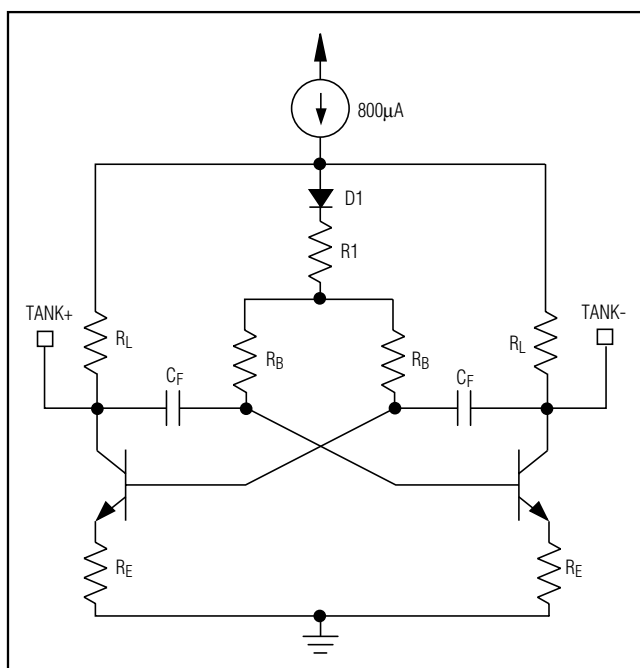

Figure 4. Voltage-Controlled Oscillators
The LO signal for downconversion is provided by a voltage-controlled oscillator (VCO) consisting of an on-chip differential oscillator, and an off-chip high-Q resonant network. Figure 4 shows a simplified schematic of the VCO oscillator. Multiband operation is supported by the MAX2310 with dual VCOs. VCO_H and VCO_L are selectable with the MODE pin or the VCO_SEL (VS)